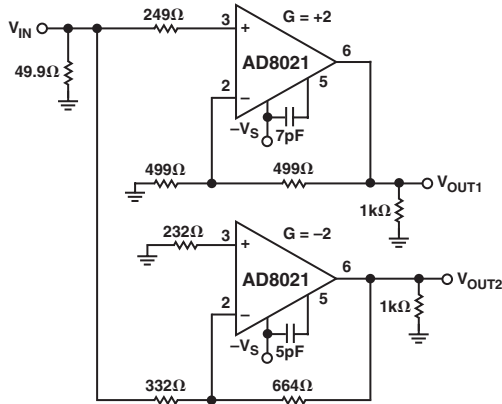
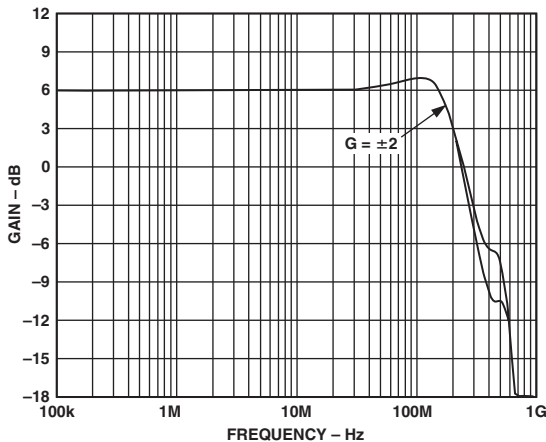
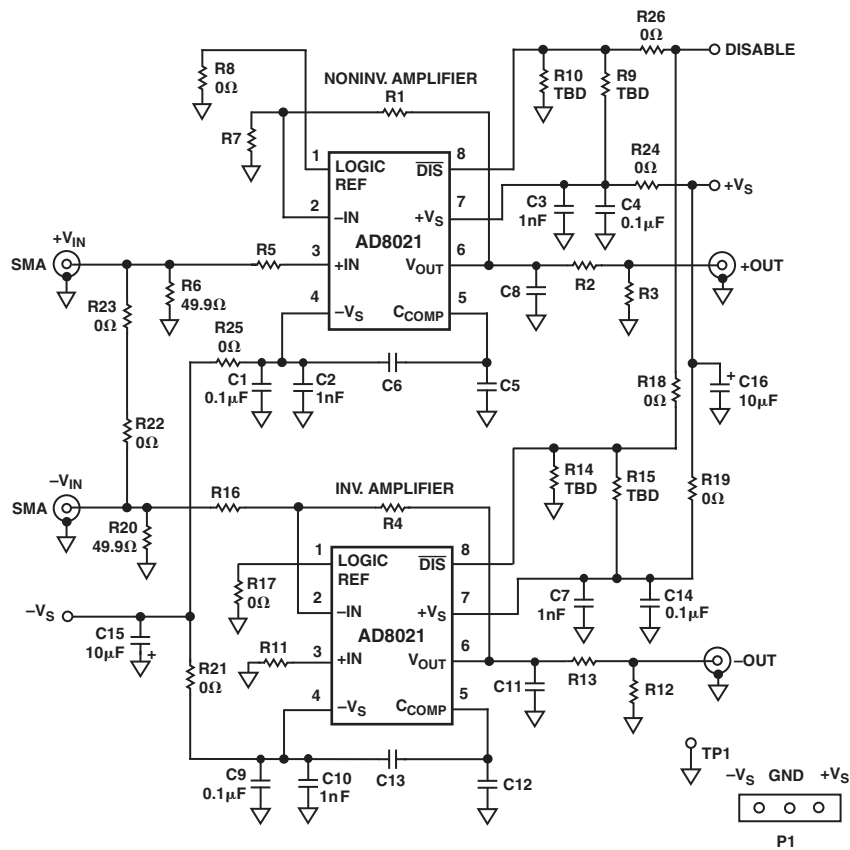

Figure 10. Differential Amplifier
Figure 12. AC Response of Two Dissimilarly Compensated AD8021 Op Amps (Figure 11) Configured for Gains of +2 and -2. Note the Close Gain Match
Figure 17. Schematic of Evaluation Board
3. Match bandwidth in gain blocks with different noise gains, such as when designing differential amplifiers (as shown in Figure 10).
Figure 10 illustrates an inverter-follower driver circuit operating at a gain of 2, using individually compensated AD8021s. The values of feedback and load resistors were selected to provide a total load of less than 1 kΩ, and the equivalent resistances seen at each op amp's inputs were matched to minimize offset voltage and drift. Figure 12 is a plot of the resulting ac responses of driver halves.
Referring to the schematic of Figure 17, separate SMA input connectors and termination resistors are provided for noninverting and inverting amplifiers. Separate amplifiers may be used as a differential amplifier as in Figure 10.